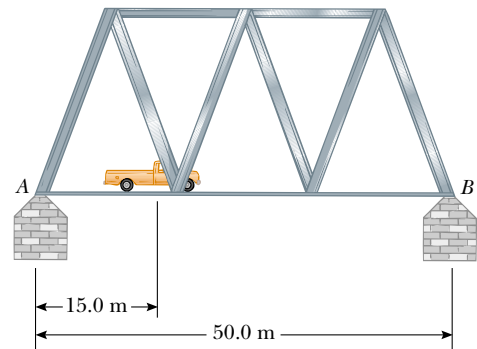

Figure P12.37
37. A bridge with a length of 50.0 m and a mass of $8.00 \times 10^4 \text{ kg}$ is supported on a smooth pier at each end, as illustrated in Figure P12.37. A truck of mass $3.00 \times 10^4 \text{ kg}$